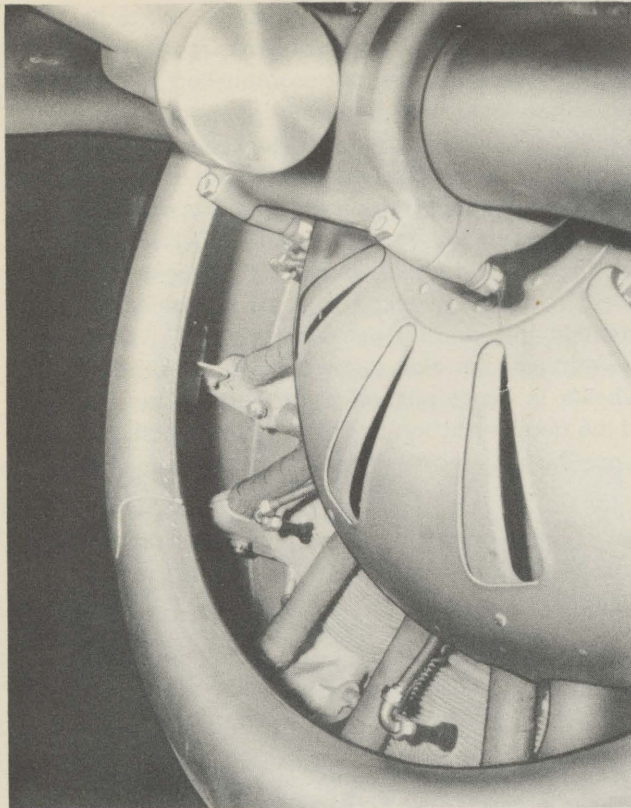

FIG. 30—ENGINE COWL NOSE SHUTTERS
(2) WINDSHIELD DEFROSTING.—The windshield may be defrosted by means of a flexible aluminum alloy tube which extends from the heater valve at the right side of the front cockpit to a semi-circular nozzle at the base of the windshield. The tube is insulated with skyfelt and sends heat to the windshield by manual operation of the heater valve control handle.
(3) WING GUN HEATING.—Heated air is supplied to the wing machine gun by a flexible aluminum alloy tube which extends from the heater salvo in the front cockpit to the center section and from there to the gun's position in the right outer panel. The tube is insulated with skyfelt and terminates at its connection with a heater duct in the gun bay. Manual operation of the heater valve control handle sends heat through the tube.
c. ENGINE COWL NOSE SHUTTERS (See figure 30.)—Part of the special winterization equipment acting to maintain proper engine temperatures are full closing engine cowl nose shutters so installed as to be manually operated by a flexible push-pull control rod, an Arens control. The control knob is located in the front cockpit below the instrument panel to the right of the gun sight. When the knob is pulled,